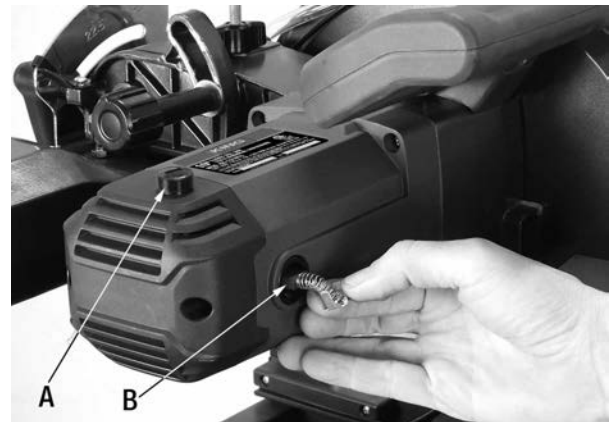

FIGURE 27
- Remove carbon brush cap (A) Fig.27 with a flat head screwdriver (not included). The carbon brush assembly (B) is spring loaded and will pop out when you remove brush cap (A). Remove carbon brush assembly (B).
- Reassemble using new carbon brush assemblies (not included). Reinstall brush caps (A). Tighten brush caps securely. Do not overtighten.